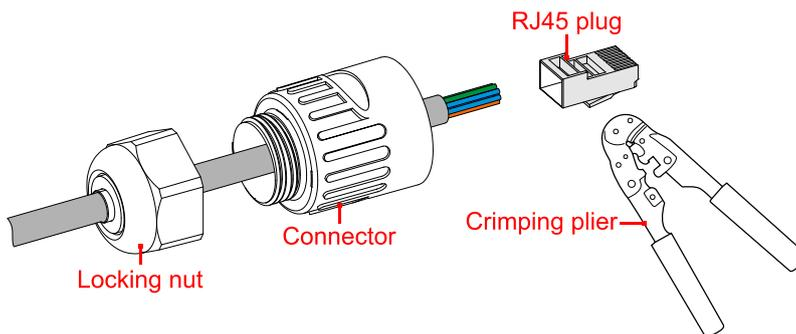
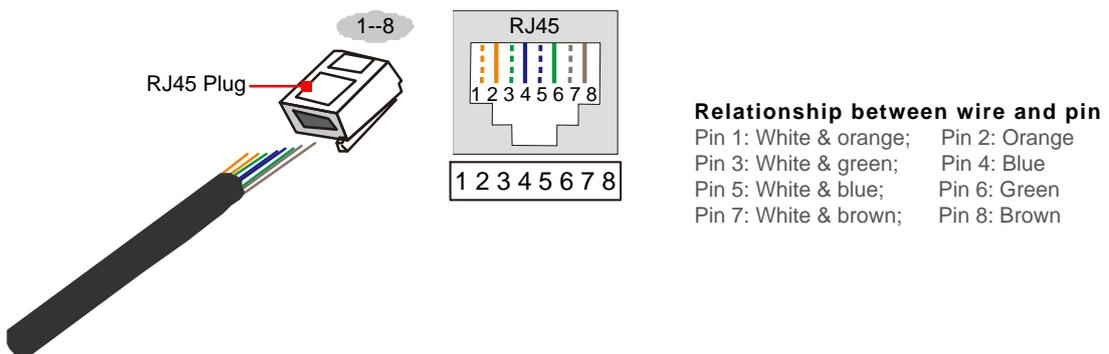

Figure3-28 Crimping diagram of Ethernet communication wire
Figure3-29 Relationship between Ethernet communication wire and pin
- Step 1 Loosen the external forced cable fixing head of "COM.", and then lead the communication cable go through the external forced cable fixing head. Crimp the communication wire to corresponding terminal, as shown in Figure3-28, Figure3-29.